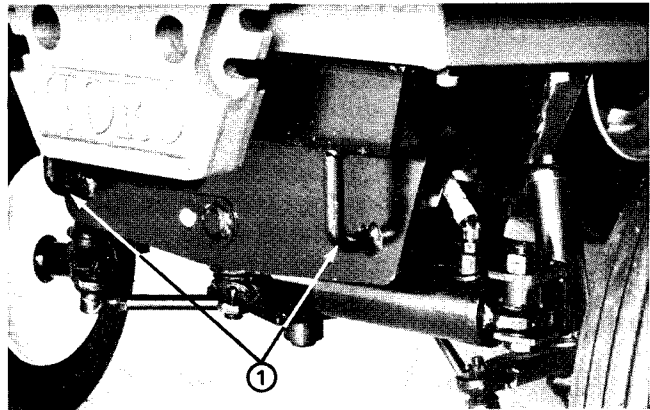

Figure 12
1. Before beginning the traction test, drive the machine to an open area, lower the cutting unit, turn the engine OFF and engage the parking brake. Connect a chain to the rear frame tie down brackets (Fig. 12). Connect the other end of the chain to an immovable object and remove all slack from the chain.